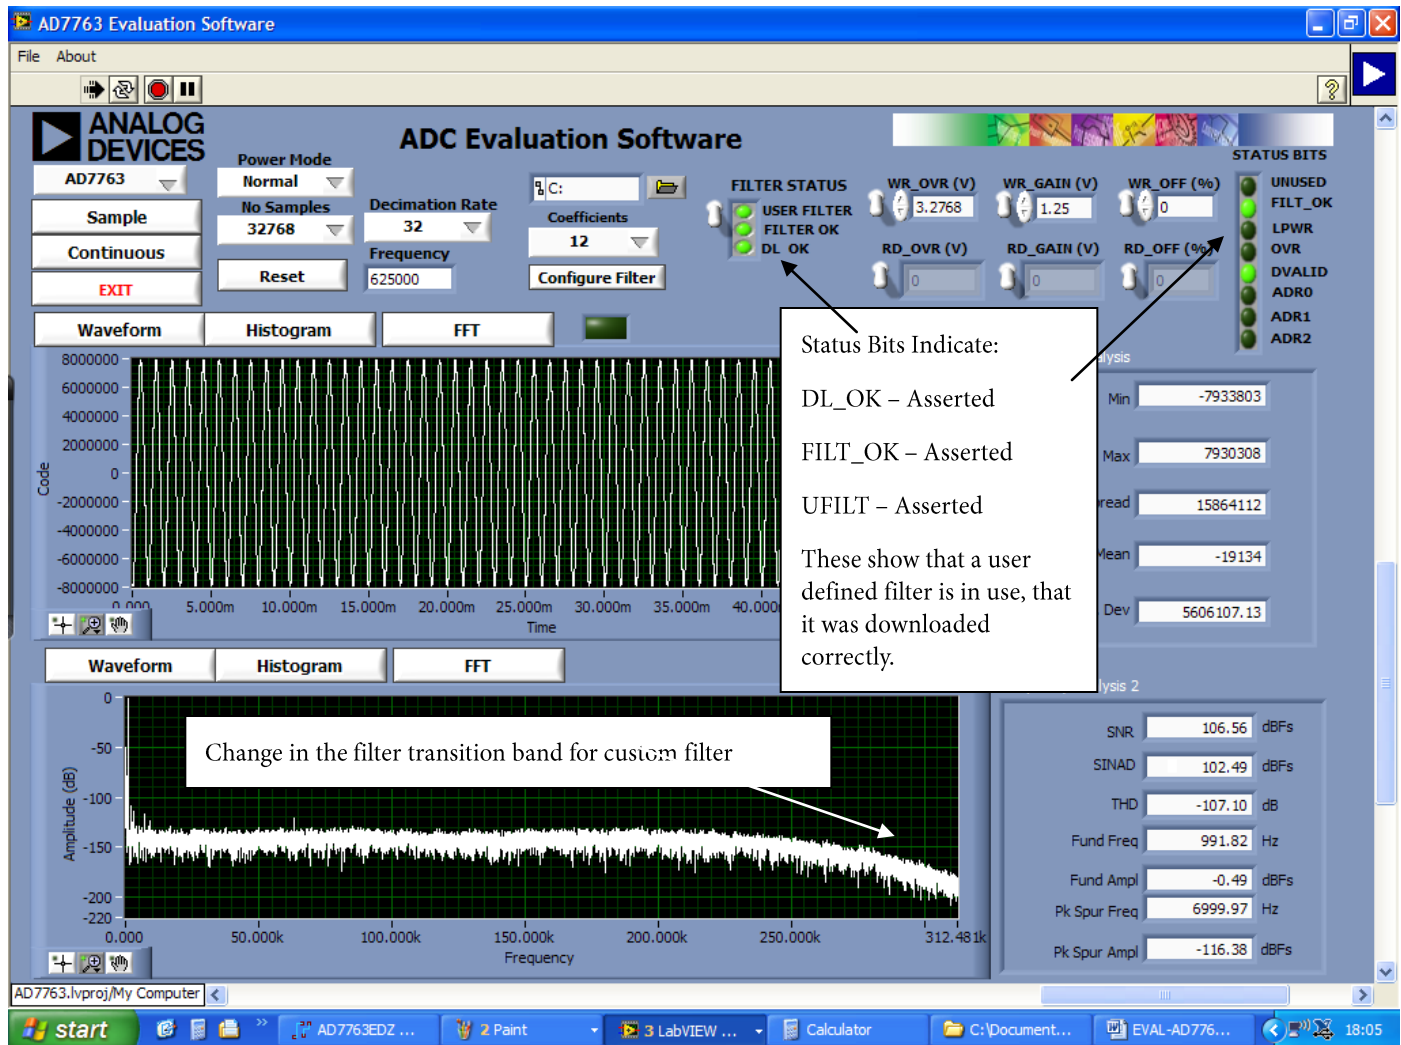

Figure 14. User-defined filter example – implemented on evaluation board. See indicators illuminated, and custom filter transition band.
- e) The filter example used in the AD7763 datasheet will show a slower transition band. The FFT of this filter implementation is shown in Figure 14. As highlighted, the status bits output by the ADC will show if the filter file has been downloaded correctly. The indicators for the DL_OK, FILT_OK and UFLT are all asserted to show a successful filter download.